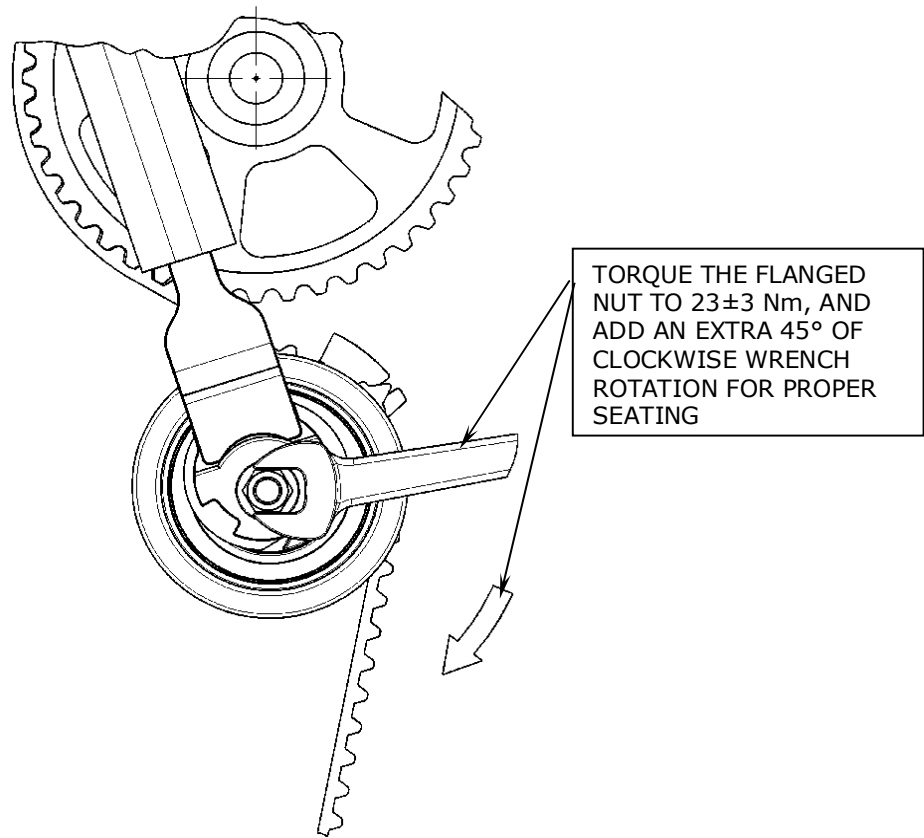

Figure 13: Tensioner Torqued at Nominal Position
16. Tighten the tensioner in this position by torquing the Flanged Mounting Nut to **23±3 Nm**, and add an extra **45°** clockwise rotation, see Fig. 13.